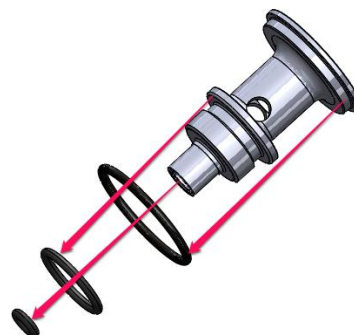

Fig. 3
6. Using care not to scratch or damage the receiver 8041.8, remove from inside the receiver 8041.8 the HP Poppet O-ring V2.007.90. Remove O-rings 6510 and 2.021. Discard these O-rings (Fig. 3).